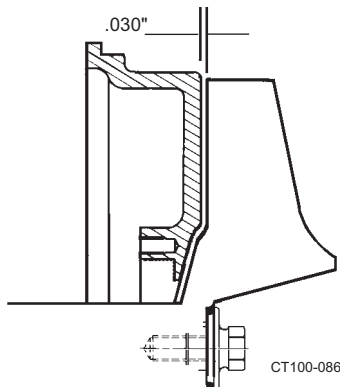

**Figure 38 - Type 4 Seal Components**
12. Lift off rotating seal components. See Figure 38 on page 31:
15. See Figure 38 on page 31. Remove the stationary seal (item D) and L-gasket (item C) from the backplate.
2. Install the L-gasket in the backplate (Figure 38, items B and C).
3. Install the L-gasket in the seat retainer (Figure 38, item T).
4. Install the stationary seals (Figure 38, item S) in the L-gaskets.
7. Place the O-ring (Figure 38, item F) on the shaft and use the spring retainer to push the O-ring into the rotary seal (Figure 40).
8. Place the washer (Figure 38, item G) over the rotary seal with tabs in the outside diameter notches.
9. Place three springs (Figure 38, item J) in one side of the spring retainer (item H). Hold them in place with silicone sealer, and slide the spring retainer (with the springs down) onto the impeller shaft the against the washer.
10. Place the remaining three (3) springs in the spring retainer.
11. Slide the washer and O-ring (Figure 38, items K and F) onto the shaft against the spring retainer.
13. Remove the 1/4 NPT plug from the center port on the flush housing (Figure 38, item N).
14. Install an O-ring (Figure 38, items M and R) in both ends of the housing.
15. Install the L-gasket in the seat retainer (Figure 38, items T and U).
16. Install the stationary seal (Figure 38, item S) in the L-gasket.
18. With flush ports facing away from the backplate, place the seat retainer (Figure 38, item U) on the housing.
19. Tighten the seat retainer in place with four (4) hex screws (Figure 38, item V).
24. Tighten the setscrews in the spring retainer through the 1/4" NPT center port in the flush housing (Figure 38, item N).